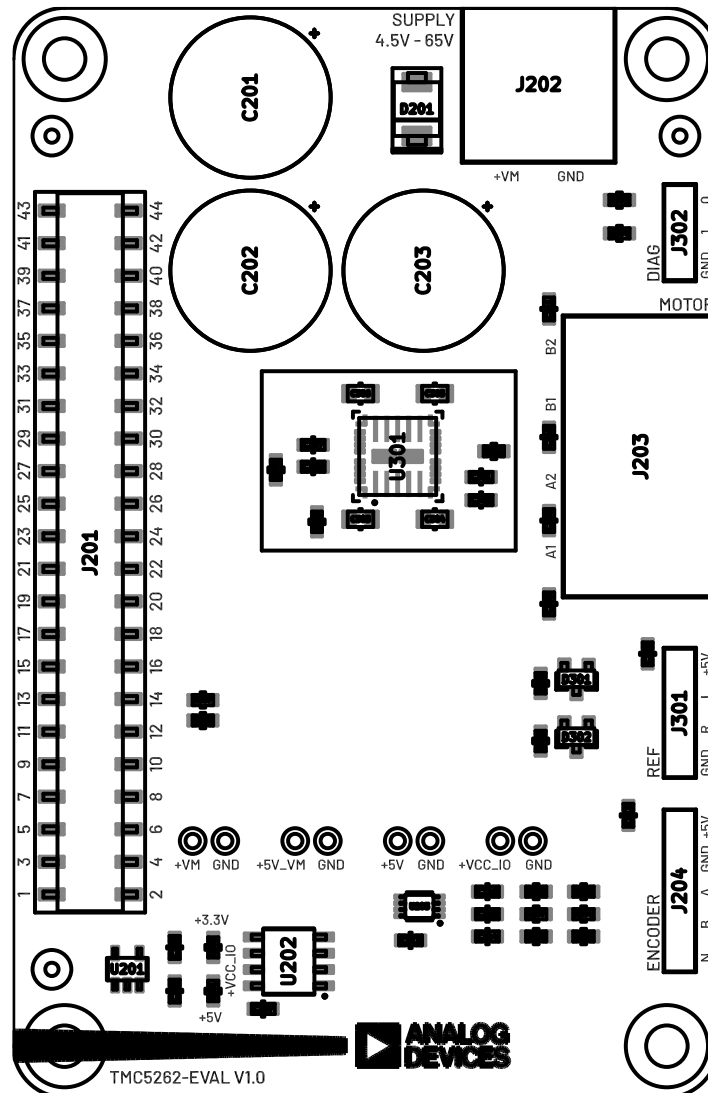

Figure 5. TMC5262-EVAL Component Placement and Silkscreen
2. Plug the selected motor to connector J203, which is labelled as *MOTOR* on the board's silkscreen (Figure 5). Observe the correct order of the A1, A2, B1, and B2 motor phases.
3. (Optional) Plug the ABN Encoder to pin header J204, which is labelled as *ENCODER* on the board's silkscreen (Figure 5).
5. Plug the power supply cable to Connector J202, which is labelled as *SUPPLY* on the board's silkscreen (Figure 5). Make sure the power supply is off before connecting it to the board and the polarity is correct.
The TMC5262-EVAL has one power, and one motor connector, and three pin headers. These can be found in the component placement drawing in Figure 5 and are described in detail in Table 2.
In addition to the connectors shown in Table 2, some unpopulated THM test points are available in the TMC5262-EVAL. See the component placement drawing in Figure 5. The additional connectors are described in Table 3.